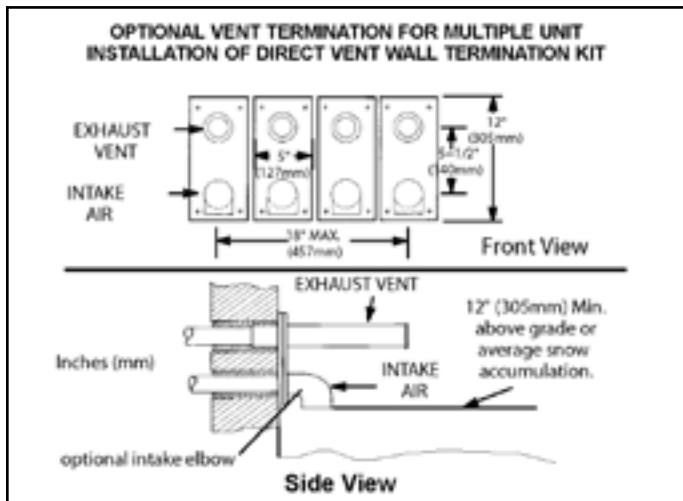

Figure 35. 30G28 or 81J20
8. A multiple furnace installation may use a group of up to four terminations assembled together horizontally, as shown in Figure 35.